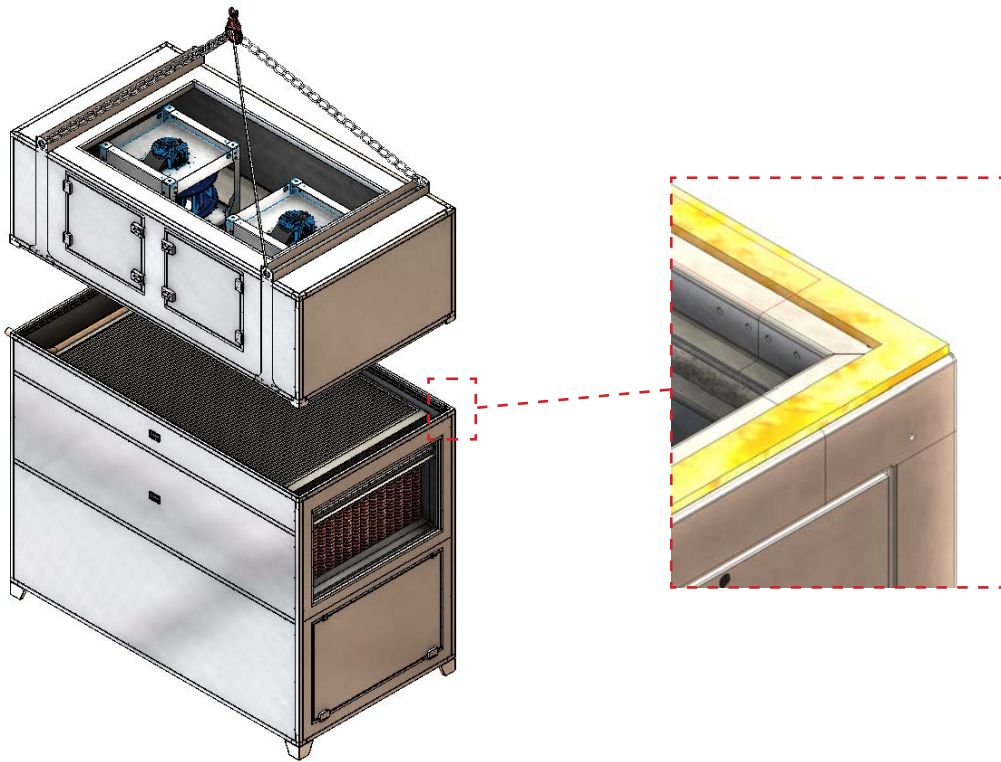

Fig. 5
1. Apply supplied self adhesive gasket along the perimetrical face of one of the sections to be coupled. (see Fig. 5)
2. Position first the heaviest section, then set beside the second one and embed it in the provided corner mortises. (see Fig. 5)